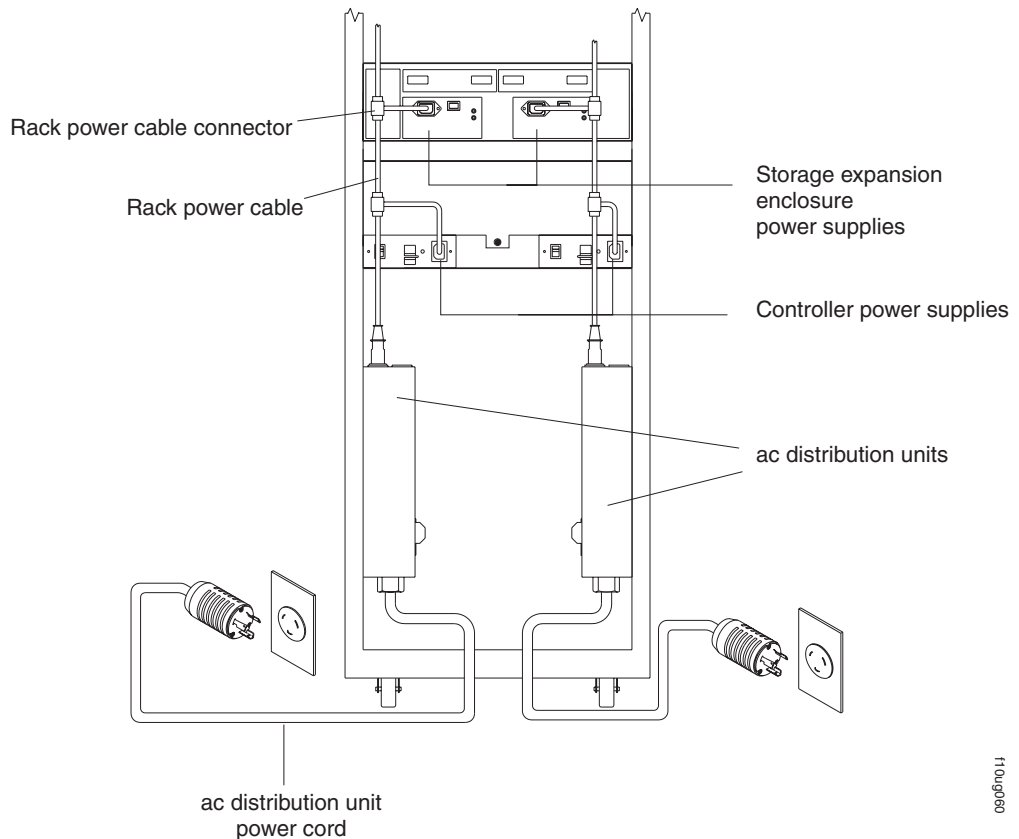

Figure 102. Redundant ac power connections to controllers and storage expansion enclosures
See Figure 102 on page 150 for an example of redundant power cabling.
- To maintain power redundancy, plug the storage subsystem's right and left RAID controller units into two independent external power circuits through ac distribution units inside a rack cabinet or directly into external receptacles. Similarly, the right and left power supplies of the DS4000 or DS5100 or DS5300 storage expansion enclosures attached to the DS5100 or DS5300 should be plugged into the same two independent external power circuits as the DS5100 or DS5300. This ensures that the DS5100 or DS5300 and all its attached storage expansion enclosures will have power if only one power circuit is available. In addition, having all the right or all the left power cables plug into the same power circuit will enable the components in the storage subsystem to power on simultaneously during an unattended restoration of power. See Figure 102 on page 150 for an example of redundant power connections.